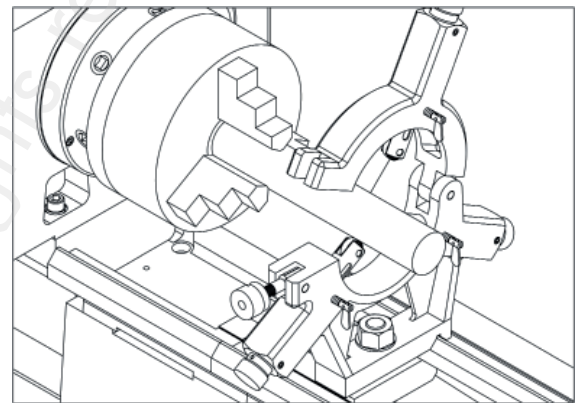

Fig. 38 Workpiece mounted in the steady rest
4. Loosen the lock knob and open the steady rest so the workpiece can rest on the bottom two finger rollers, as shown in figure 38.